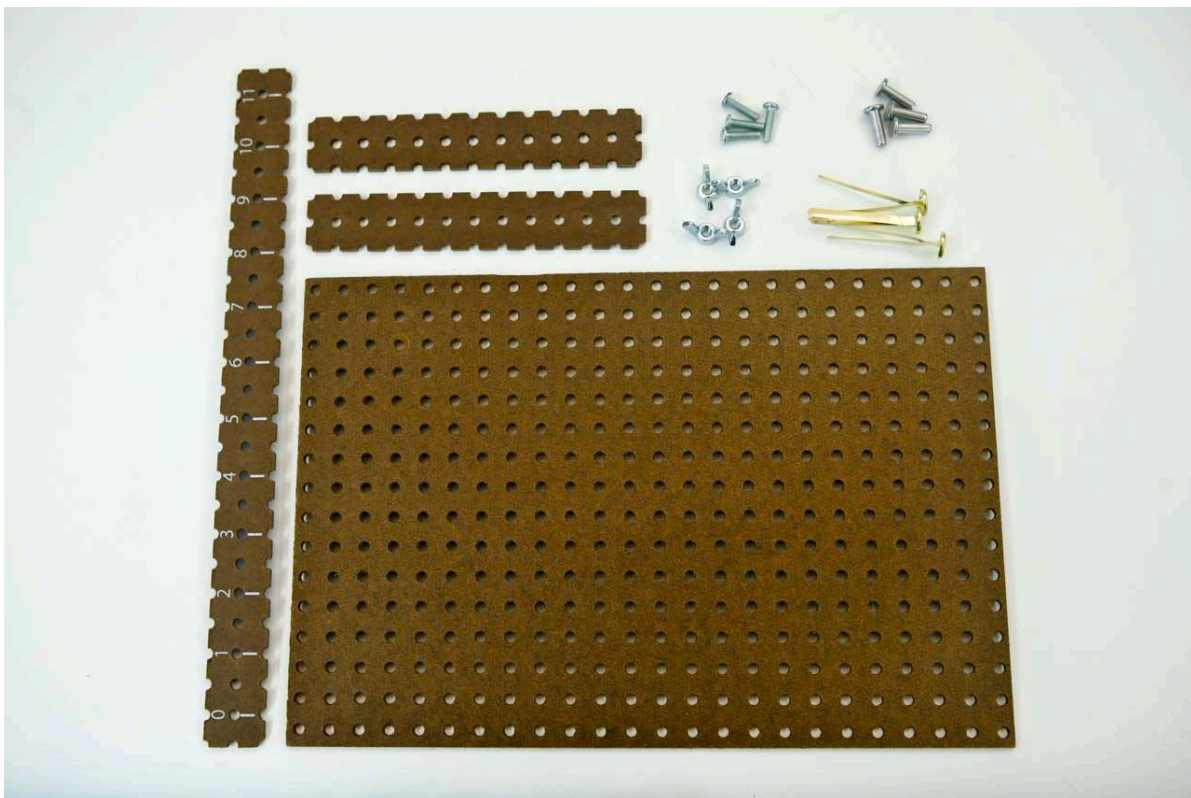

Figure 1: Materials: (top row) short strip, screws, rivets; (middle row) short strip, wing nuts, paper fasteners; (bottom row) long strip, base
See Figure 1 for photos, and Table 1 for quantities and scheduling
- ✂ Three types of **fasteners** for joining pegboard pieces (see Figure 1):